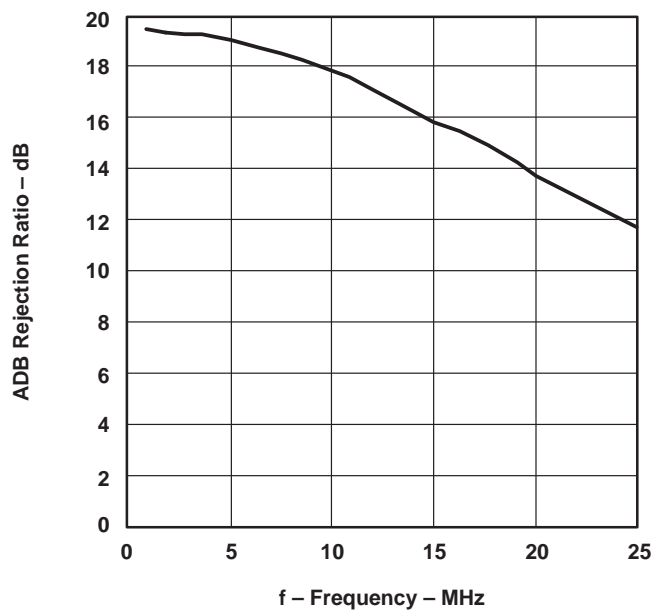

Figure 11. Measured ADB Rejection Ratio as a Function of Frequency
- ADB rejection ratio is –20 times the logarithm of the ac amplitude at the output divided by the ac amplitude at ADB (see Figure 11 for measured ADB rejection ratio as a function of frequency).